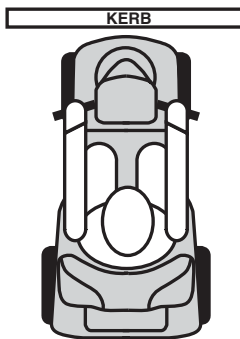

Figure 3. Correct Kerb Approach
**WARNING! Be sure your scooter is traveling perpendicular to any kerb you may be required to ascend or descend. See figures 3 and 3A.**